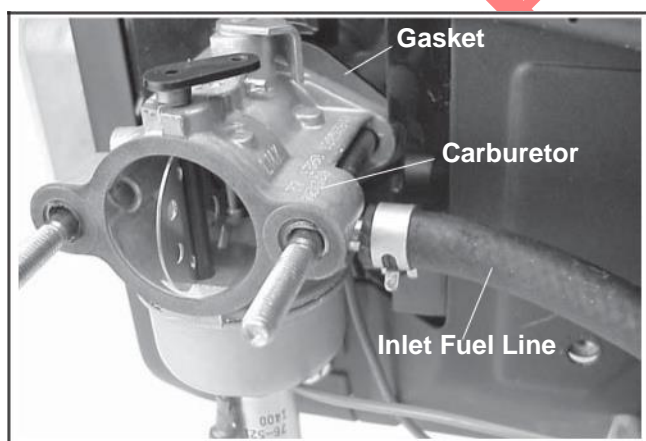

Figure 9-10. Removing Fuel Line and Carburetor.
6. Disconnect the fuel line from the inlet fitting of the carburetor. See Figure 9-10.